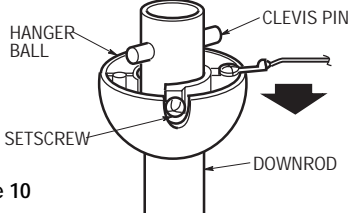

Figure 10
- Remove the hanger ball by loosening the setscrew in the hanger ball until the ball falls freely down the downrod (Figure 10). Remove the pin from the downrod, then remove the hanger ball. Retain the pin and hanger ball for reinstallation in Step 22.